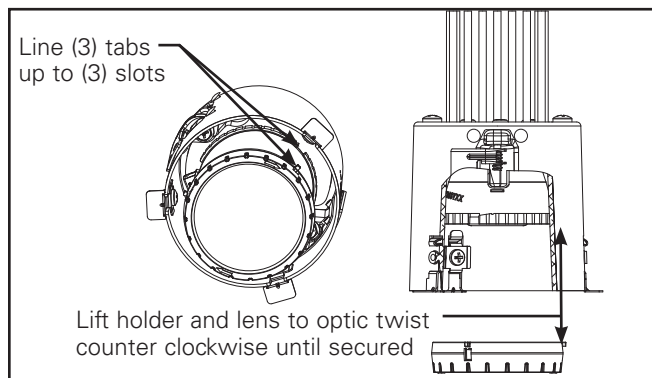

Figure 6
9. If a soft focus lens is desired, use accessory kit supplied see figure 6 for installation.